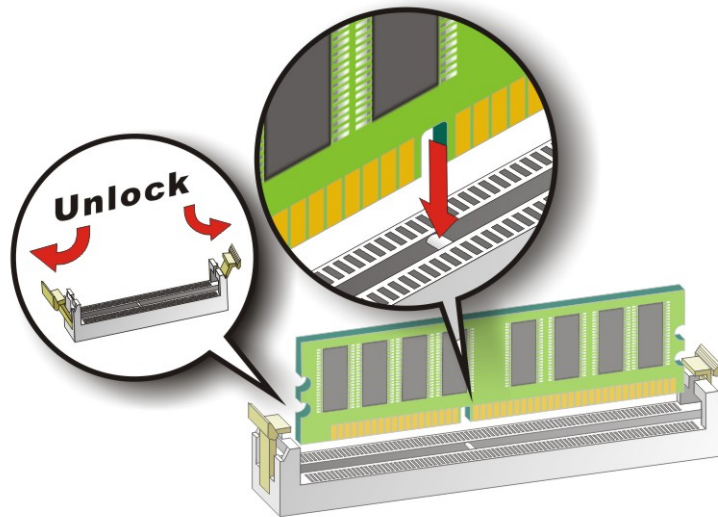

Figure 4-6: DIMM Installation
To install a DIMM, please follow the steps below and refer to **Figure 4-6**.
Step 1: Open the DIMM socket handles. Open the two handles outwards as far as they can. See **Figure 4-6**.
Step 2: Align the DIMM with the socket. Align the DIMM so the notch on the memory lines up with the notch on the memory socket. See **Figure 4-6**.
Step 3: Insert the DIMM. Once aligned, press down until the DIMM is properly seated. Clip the two handles into place. See **Figure 4-6**.